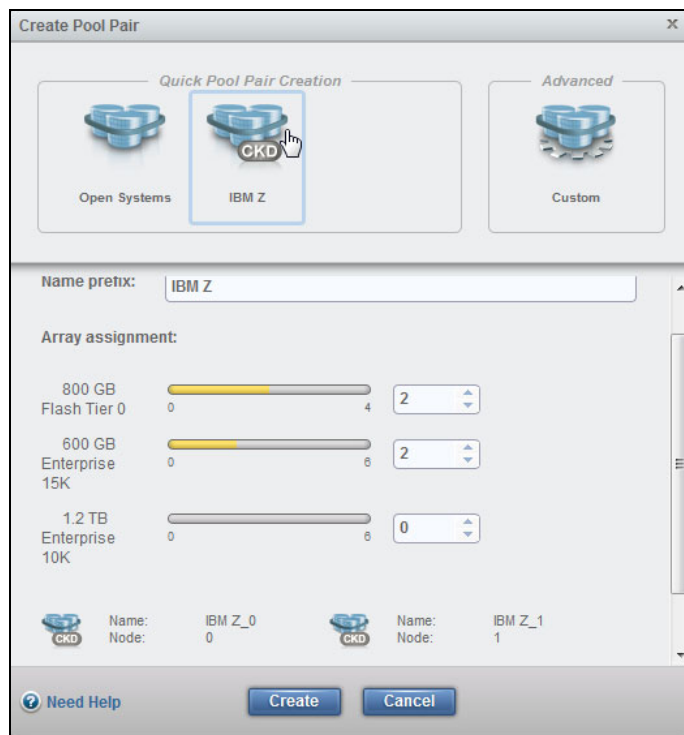

Figure 11-85 Create the CKD pool pair and assign arrays to the pool pair
4. In the Create Pool Pair window that is shown in Figure 11-85, select the number of arrays to assign to the pool pair.